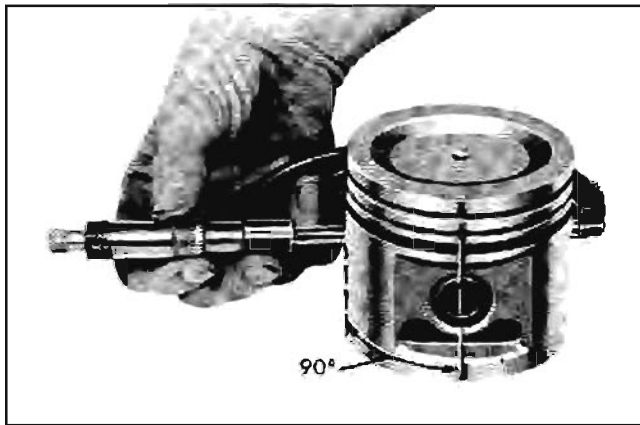

Fig. 6-118 Measuring Piston
Pistons are cam ground, which means diameter at a right angle to piston pin is greater than diameter parallel to piston pin. When a piston is checked for size, it must be measured with micrometers applied to the skirt at points 90° to piston pin. See Fig. 6-118. The piston should be measured (for fitting purpose) $\frac{1}{4}$ " below the bottom of oil ring groove.
3. Measure the piston to be installed. See Fig. 6-118. The piston must be measured at right angles to the piston pin $\frac{1}{4}$ " below the oil ring groove. The piston must be between .001" and .0015" smaller than the cylinder bore.